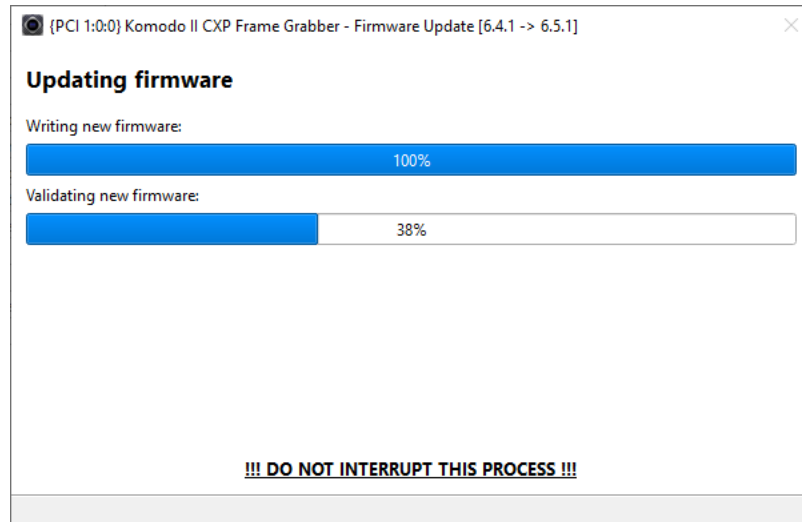

Figure 34 – Firmware update progress
4. The firmware update process is displayed in the first progress bar, and the firmware validation is displayed in the second, as shown in Figure 34.